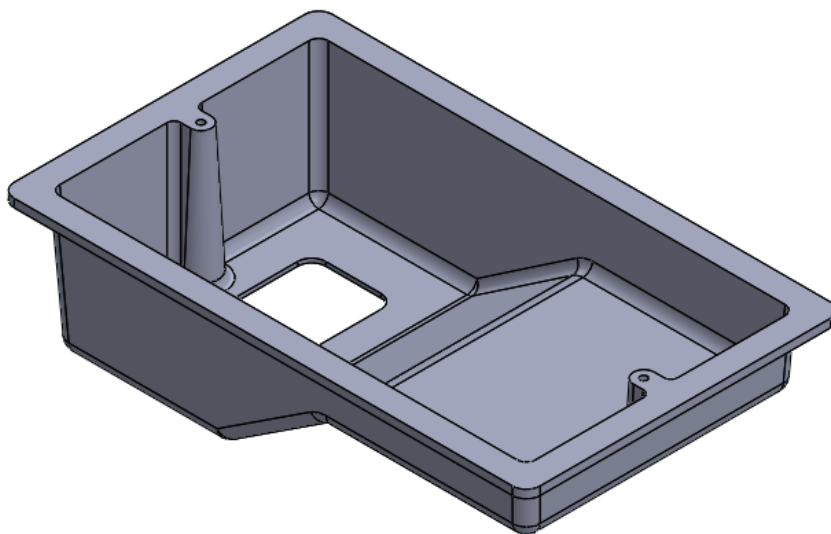

Figure 21-36 Final model of the Plastic Cover
3. Save the model. Figure 21-36 shows the final model created using the standard modeling tools.